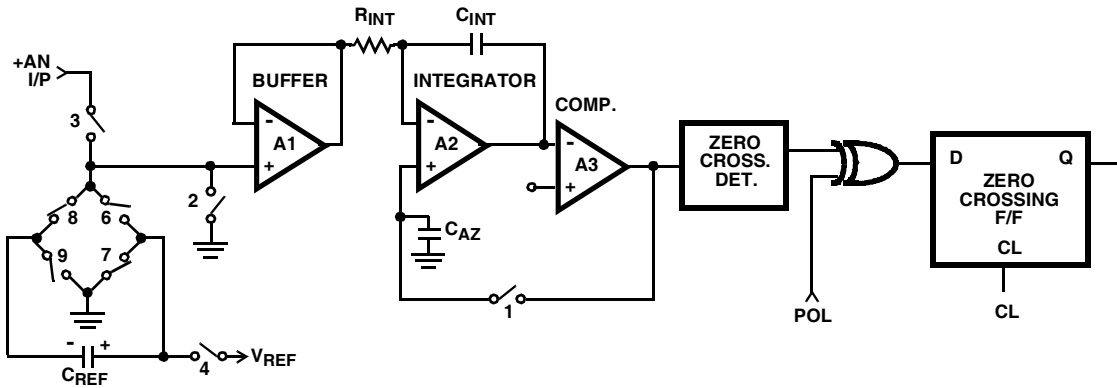

FIGURE 6C. PHASE III + DEINTEGRATE
**Deintegrate Phase III (Figures 6C and 6D)**